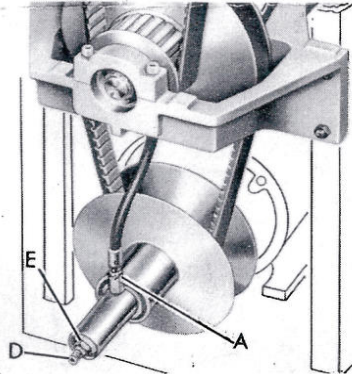

FIGURE 1
4. Disconnect fitting (A, fig. 1) and drain small amount of oil remaining in line, into container.
5. While holding shaft (D, fig. 1) with socket set screw wrench, remove nut (E) and washer.